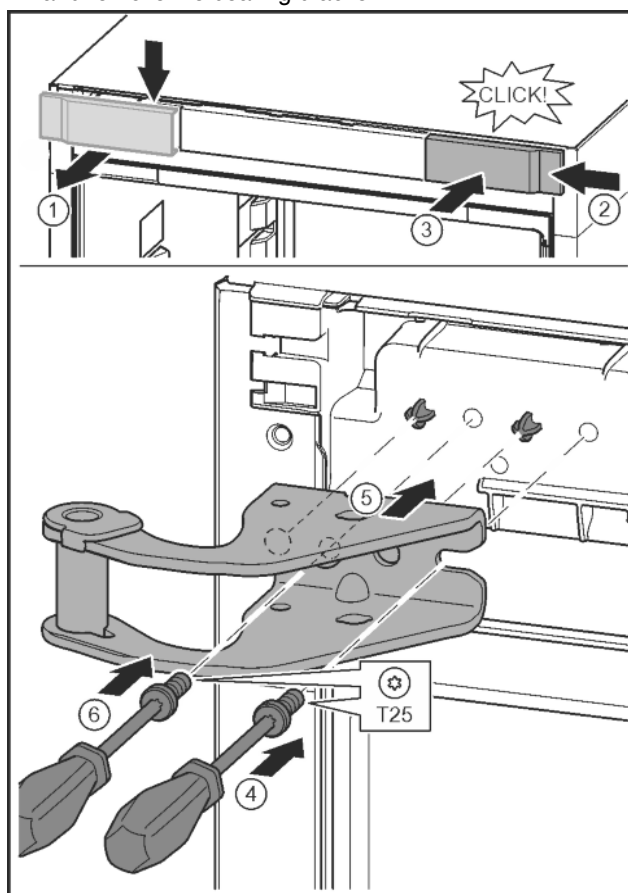

Fig. 14
- Release the cover and remove from the side. Fig. 14 (1)
- Rotate the cover 180° and clip onto the other side from the right. Fig. 14 (2)
- Click the cover into place. Fig. 14 (3)
- Position the screw with a T25 screwdriver. Fig. 14 (4)
- Position the upper bearing bracket. Fig. 14 (5)
- Tighten the screw. Fig. 14 (4)
- Insert the screw with a T25 screwdriver and tighten. Fig. 14 (6)